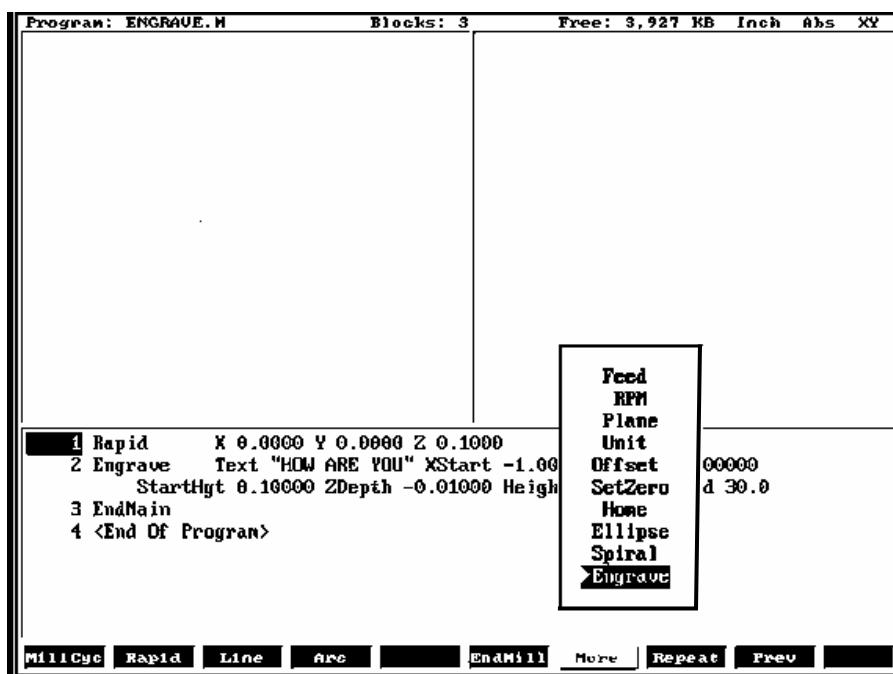
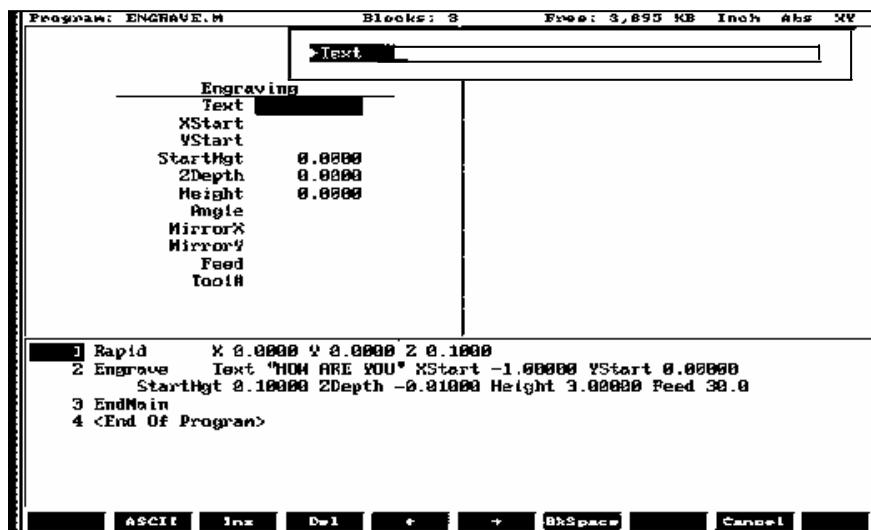

Figure 4-52, More Pop-up Menu
Figure 4-53, Engraving Cycle Screen
1. In Edit mode, press **Mill** (**F5**) and **More** (**F7**) to display the More pop-up menu, **Figure 4-52**. Highlight **Engrave** and press **ENTER** to display the Engraving Cycle screen, Figure 4-53, Engraving Cycle Screen.